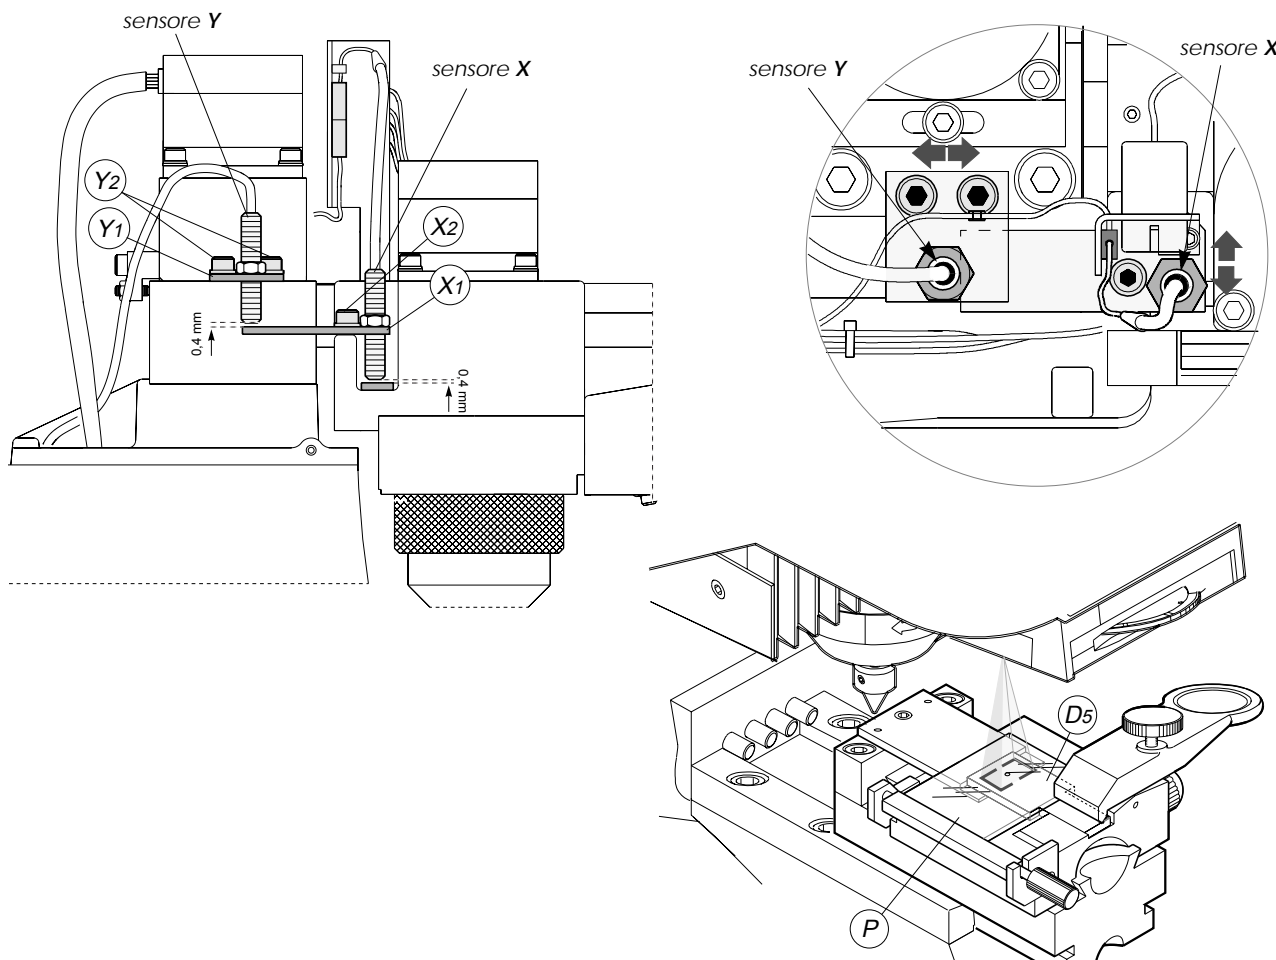

Fig. 28
- 2) loosen the screws (X2) securing the plate (X1) (fig. 28).
- 4) loosen the screws (Y2) securing the plate (Y1) (fig. 28).
**WARNING:** position the glass slide (P) over the key (fig. 28).